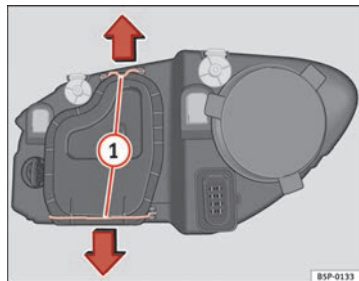

Fig. 184 Dipped beam headlights
- Remove the loops ⇒ fig. 184 ① in the direction of the arrow and remove the cover.